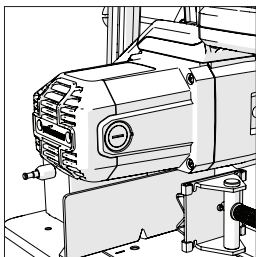

Fig. 13
- Unscrew the plastic caps found at the back of the motor (**Fig. 13**). Be careful as the caps are spring-loaded.